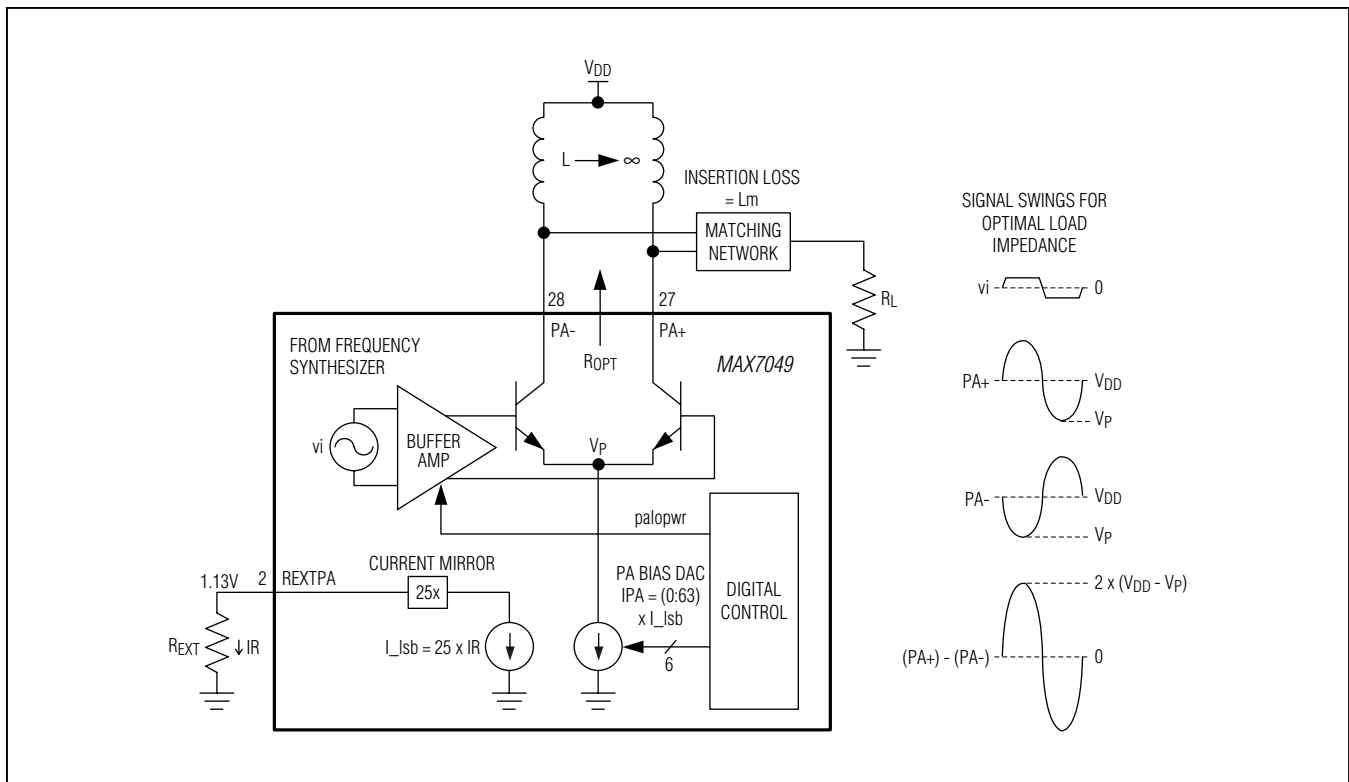

Figure 20. Power Amplifier Topology and Optimum Signal Swings
The IC contains a programmable current-drain, high-efficiency power amplifier (PA). The PA is a differential output stage capable of delivering more than +15dBm to a 50 Ω load including the losses of the matching network and harmonic filter. The bias current for the PA (IPA) is configurable in 64 linear steps, as illustrated in Figure 20.